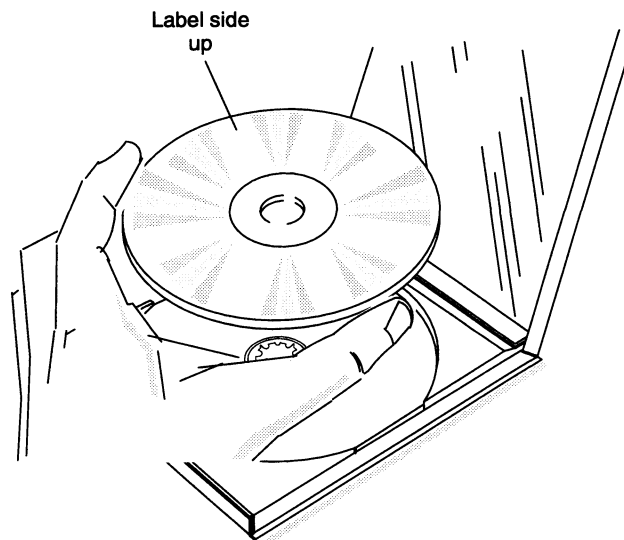

Figure 9 Removing the CD-ROM from the case
2. With the case opened, press on the case center tabs while picking up the CD-ROM by the edges, as shown in Figure 9. (Avoid touching the unlabeled side of the disk.)